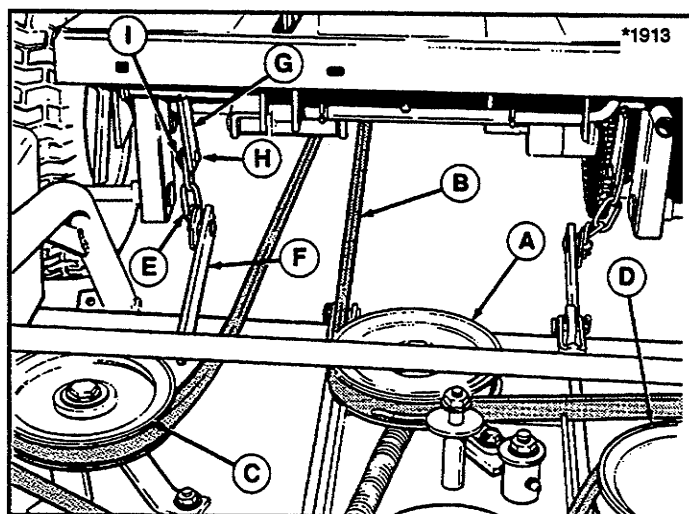

Figure 9. Removing Belt Tension
7. See figure 9. Connect top link of chains (E) to weld studs and secure with washers and cotter pins.
8. Install belt on right-hand and left-hand idler pulley by pulling on spring-loaded idler pulley (A, figure 9).
To avoid personal injury, use caution when moving spring-loaded pulley (A, figure 9). Spring tension is strong. Do not remove belt (B) from spring-loaded idler pulley (A). Remove belt from left and right idler pulleys (C & D).
Use caution when moving spring-loaded pulley (A, figure 9). Spring tension is strong. Do not remove belt (B) from spring-loaded idler pulley (A). Remove belt from left and right idler pulleys (C & D).
- See figure 9. To remove chains from rider lift arms, remove cotter pins (I) and washers from weld studs (H). Replace washers and pins on weld studs.